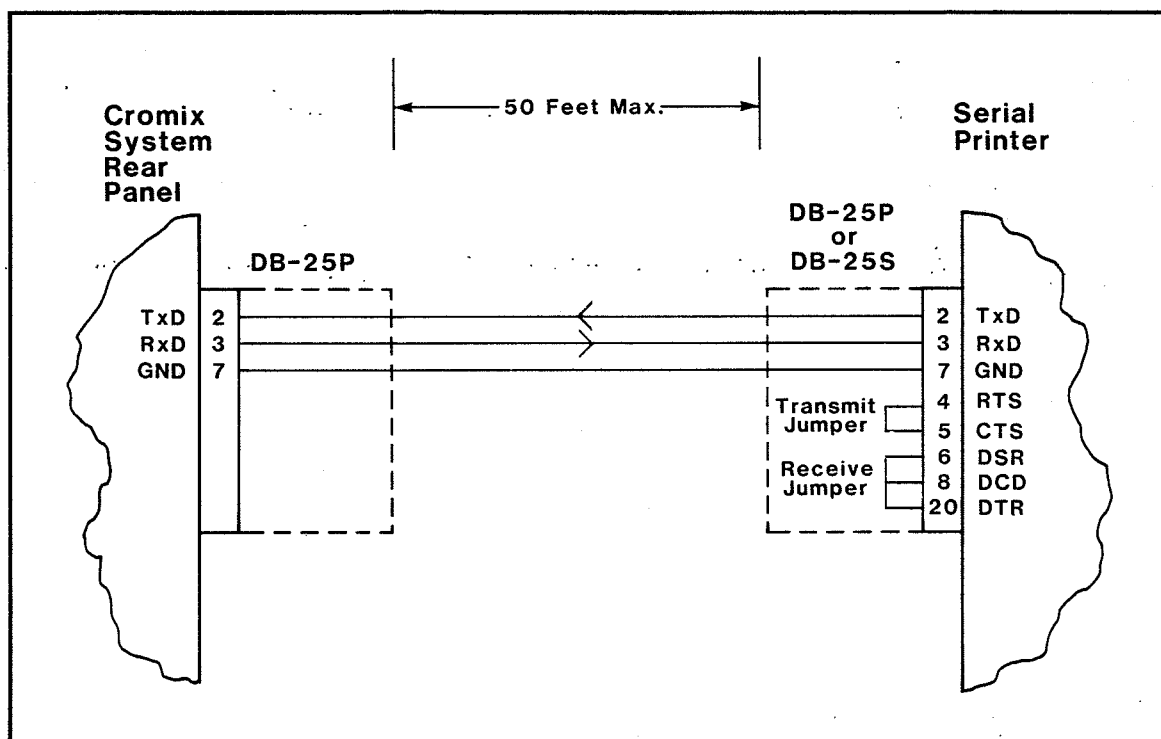

Figure 4-1: SERIAL PRINTER CABLE JUMPERS
9. If your printer monitors the CTS (Clear To Send) circuit, install the transmit jumper between CTS and RTS (figure 4-1). Keeping CTS true allows the printer to send DC1 or ACK characters back to the Cromix driver. If the printer does not drive RTS high, strap CTS high by some other means. If the printer does not monitor circuit CTS, the transmit jumper is not needed.
10. If your printer monitors circuits DCD (Data Carrier Detect) and/or DSR (Data Set Ready), install the receive jumper between DCD, DSR, and DTR (figure 4-1). Keeping DCD and DSR true allows the printer to receive characters from the Cromix driver. If the printer does not drive DTR high, strap DCD and DSR high by some other means. If the printer does not monitor either DCD or DSR, the receive jumper is not needed.